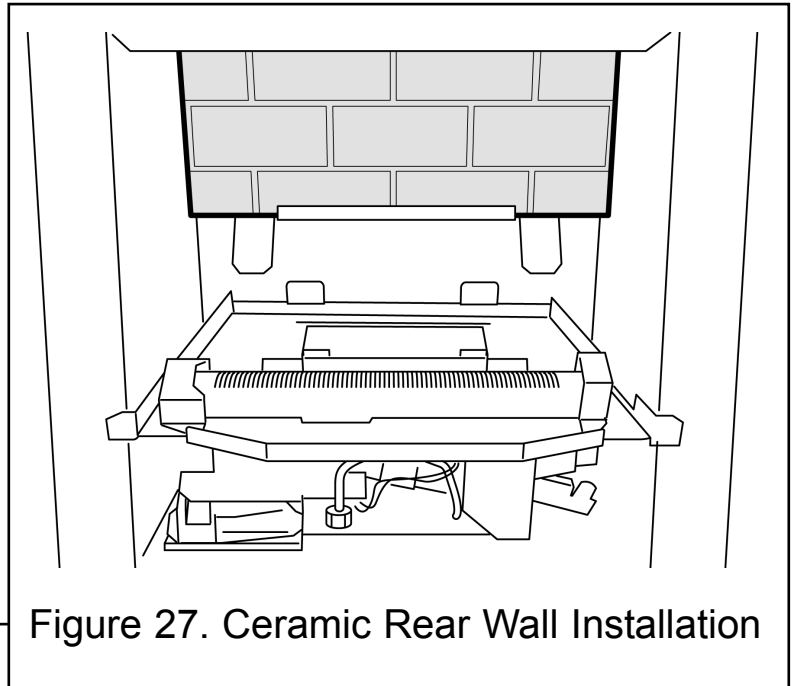

Figure 27. Ceramic Rear Wall Installation
1. Fit the ceramic rear wall inside the “L” bracket on the back face of the burner compartment. Push the ceramic wall flat against the back face of the burner compartment (See figure 27).